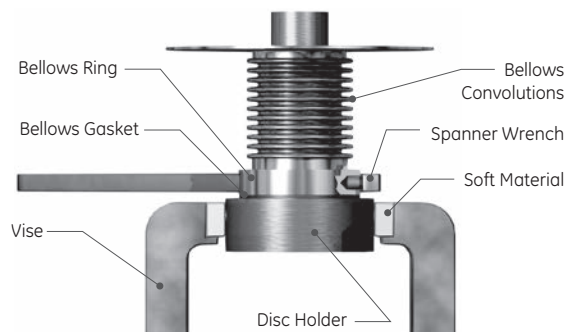

Figure 29: Removal of Bellows Ring
12. For D through U orifice bellows valves, the bellows is attached to the disc holder by right-hand threads. Use a special spanner wrench on the bellows ring to remove it by turning counterclockwise (Figure 29).